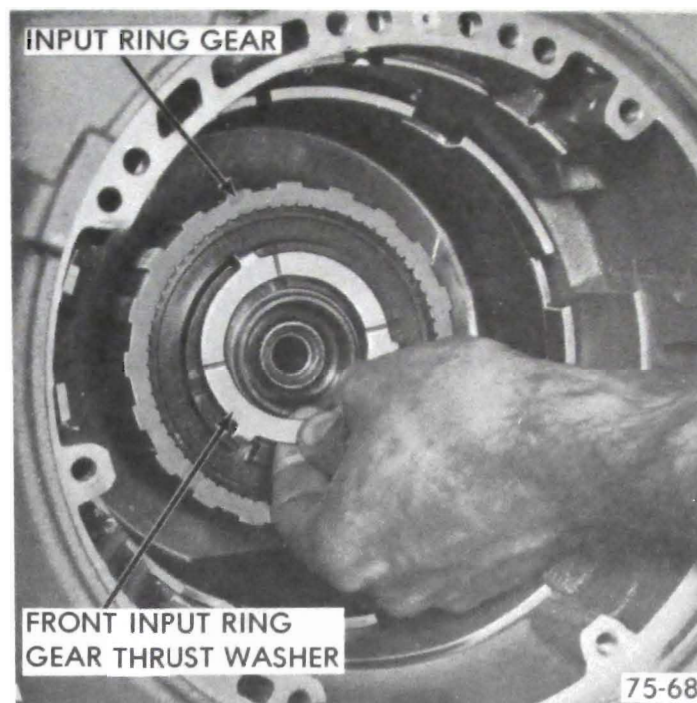

Figure 75-241
2. Install forward clutch housing to input ring gear front thrust washer. See Figure 75-241. Washer has three (3) tangs.